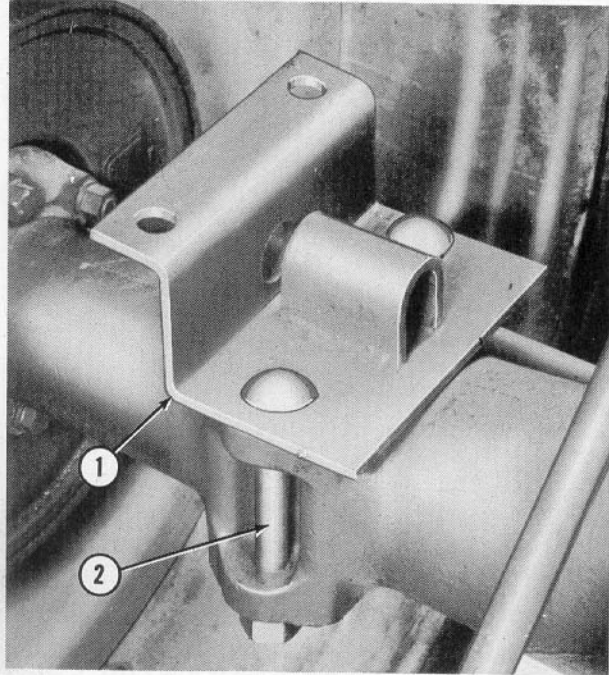

Figure 2
1. Remove the tractor fenders and bolt a loader rear mounting bracket (1), Figure 2, in place as shown on each rear axle housing. Use the original tractor fender bolts (2).
- a. Bolt the pipe support bracket (9), Fig-